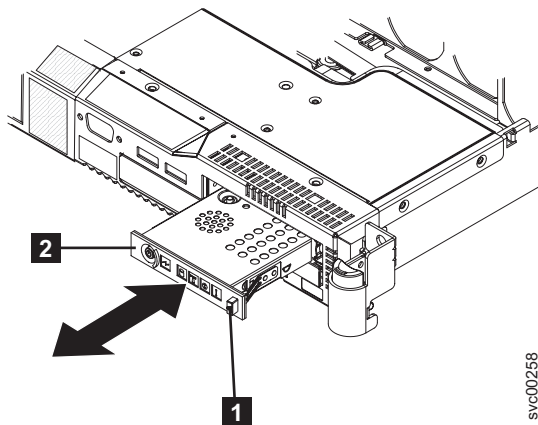

Figure 224. SAN Volume Controller 2145-8G4 operator-information panel
2. Slide the operator-information panel into its cage, as shown in Figure 224, until it locks in place with a click (in the In position); gently pull the cable through at the back as you do this.